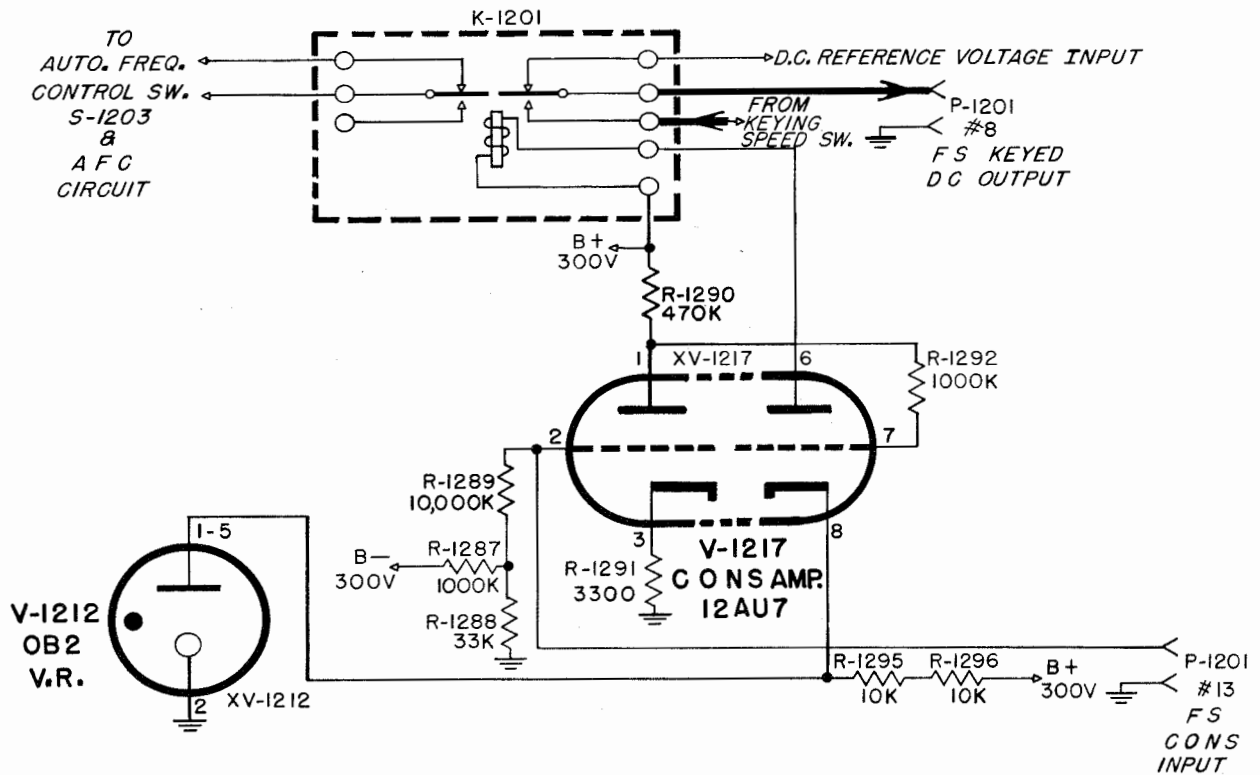

Figure 2-47. CONS Amplifier V-1217, Simplified Schematic Diagram
(9) CONS AMPLIFIER V-1217 (CV-127/FRR-24). (See Figure 2-47).—The CONS amplifier V-1217, a type 12AU7 dual triode, functions as a D.C. amplifier which operates relay K-1201. When a signal is being received a negative potential of approximately six volts appears at connector J-1207 due to a negative voltage developed by rectification of the signal carrier in the 50-kc. I.F. amplifiers. As a result, a good signal will lower the voltage on the grid of the first triode section of V-1217 causing it to draw less current. The grid of the second triode section will go positive causing this section of the dual triode to draw sufficient current to energize relay K-1201. When relay K-1201 becomes energized one set of contacts closes and removes the reference voltage from the output connector J-1204 and connects the filter output in its place. The other set of relay contacts also closes removing the short between the two grids of V-1209 thus permitting the tube to assume its normal function. If the signal fails the voltage supplied to the CONS amplifier V-1217 will be lowered to a point insufficient to energize the relay. With no signal output or with a signal of insufficient amplitude to cause the relay to become energized, the output of the filters is removed from connector J-1204 and the D.C. Reference voltage of 5.8 volts supplied at connector J-1205 will be connected in its place.